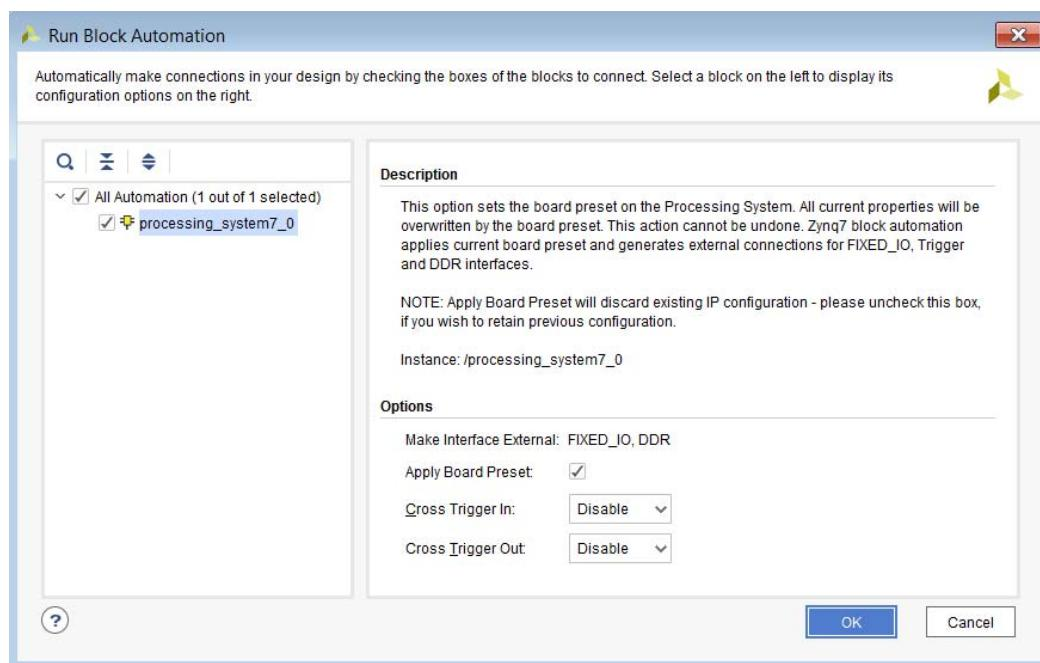

Figure 6-17: Run Block Automation on the ZYNQ7 Processor
2. The Run Block Automation states that the **FIXED_IO** and the **DDR** interfaces will be connected to external ports, as shown in Figure 6-17.